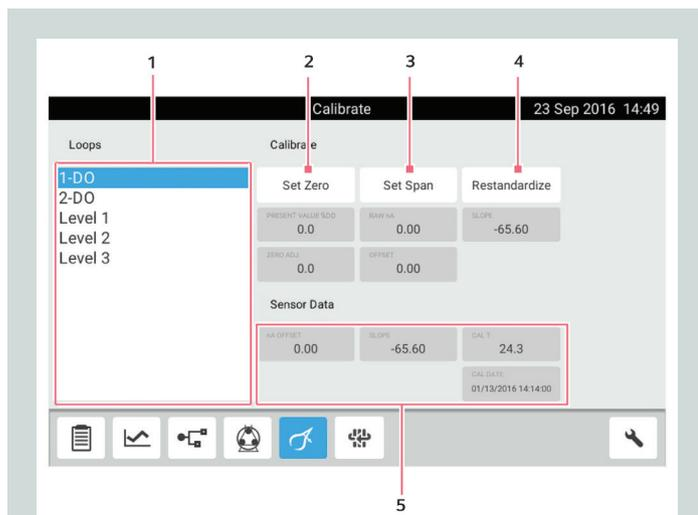
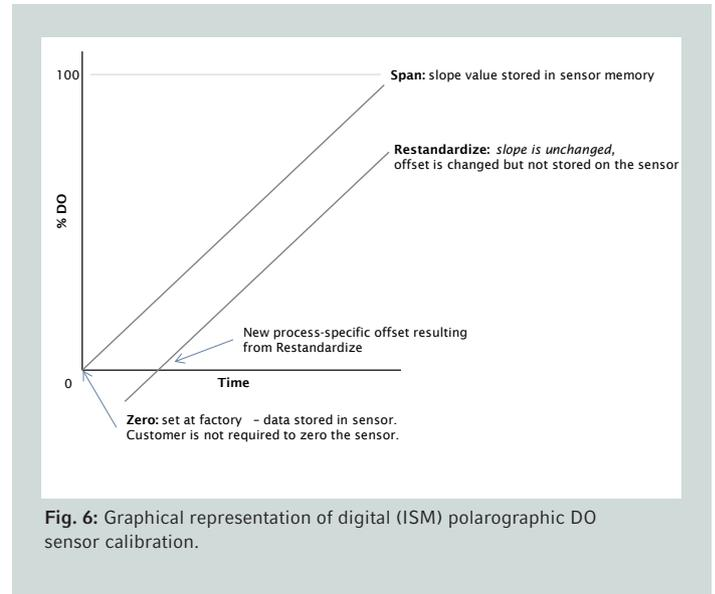

Fig. 5: Digital polarographic DO calibration screen (BioFlo 120 shown. Note that the screen is nearly identical to what is seen on the BioFlo 320.)
Fig. 6: Graphical representation of digital (ISM) polarographic DO sensor calibration.
Intelligent Sensor Management (ISM) technology from Mettler Toledo offers a range of benefits over the standard analog polarographic DO sensor, while the method of O₂ sensing remains identical. Most relevant to calibration is that the most recent calibration data is displayed on the BioFlo 120 and BioFlo 320 Calibrate screen (Fig. 5). In most cases Mettler Toledo recommends a 1-point calibration of their digital polarographic DO sensors, that involves a saturation value. This value is termed Span in the BCS software. The customer is not required to zero the sensor. The offset, or Zero, is set at the factory and Mettler Toledo recommends that Zero calibration is only performed if the customer's application requires high resolution at very low (<5 %) DO levels. Further, performing a 2-point calibration including the Zero point may cause erratic readings. Figure 6 shows the function of calibration buttons and how they differ from analog sensors.
- > To establish the correct loops on the controller, consult the BioFlo 120 or BioFlo 320 operating manual, as appropriate. Fig. 5 displays the calibration screen for a connected digital ISM polarographic DO sensor.